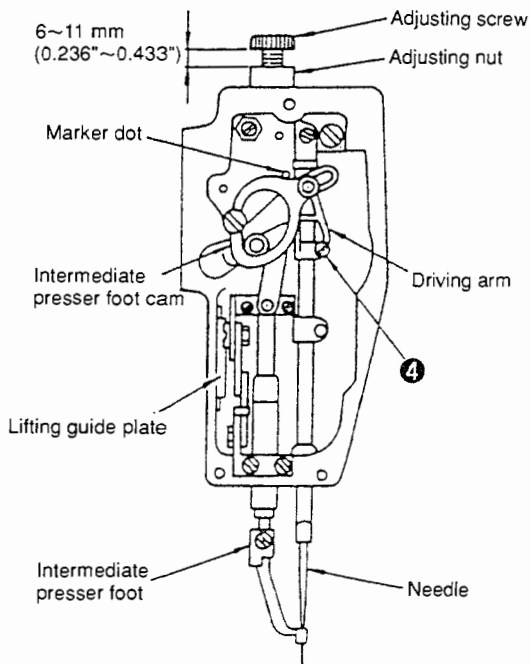
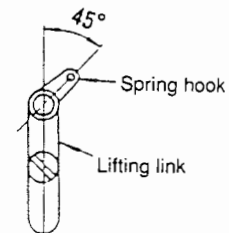

Fig. 5-19-2
Fig. 5-19-6
- 5) The spring hook is fixed at an angle of 45 degrees against the lifting link. (Fig. 5-19-6)
- 8) When the main shaft is turned by hand until it reaches its highest position, the periphery of the intermediate presser foot cam should meet the bottom edge of the marker dot. (Fig. 5-19-2)
- 10) The clearance between the adjusting screw and the adjusting nut should be 6 to 11 mm (0.236" to 0.433"). (Fig. 5-19-2)
- 8 ), 9) Loosen setscrew ④. Turn the main shaft by hand until the needle bar reaches its highest position. Move the driving arm up or down to make the periphery of the intermediate presser foot cam contact the lower edge of the red marker dot. After adjustment, tighten setscrew ④. (Fig. 5-19-2)
- (Caution)** When tightening setscrew ④, be sure that the roll of the driving arm does not stick against the slot in the intermediate presser foot cam. Also, check the main shaft for smooth rotation by turning it by hand after adjustment.
- 5 ) Loosen the spring hook nut. Adjust so that the spring hook is set at 45 degrees against the link, then tighten the nut. (Fig. 5-19-6)
- 10) Adjust to provide a clearance of 6 to 11 mm ( $0.236"$  to  $0.433"$ ) between the adjusting screw and the adjusting nut. (Fig. 5-19-2)